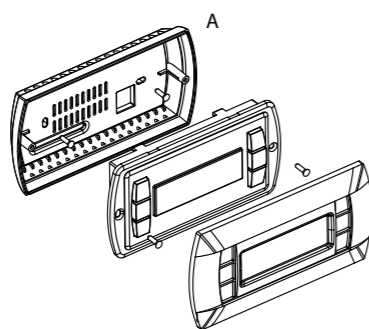

Fig. 2
墙壁安装型手操器首先需要配置一个背部支柱盒来支撑手操器（如图2所示），使用标准三模开关盒。
- 移走手操器的前面板，使用包装袋中的扁平螺钉把手操器固定背部支撑盒上，如图2所示；
The wall-mounting of the terminal first requires the back piece of the container A (Fig. 2) to be fitted, using a standard three-module switch box.
- Rest the front panel on the back piece and fasten the parts together using the flush-head screws supplied in the packaging, as shown in Fig. 2;